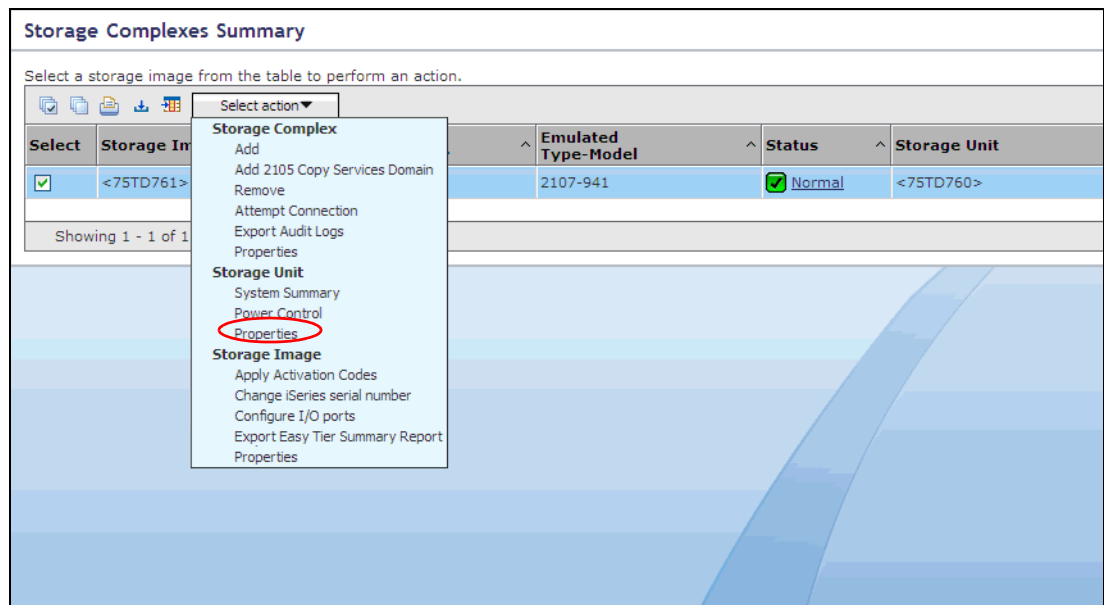

Figure 10-3 Select Storage Unit Properties
3. In the Storage Complexes Summary window, select the storage image by checking the box to the left of it, and select **Properties** from the drop-down Select action menu in the Storage Unit section. (Figure 10-3).